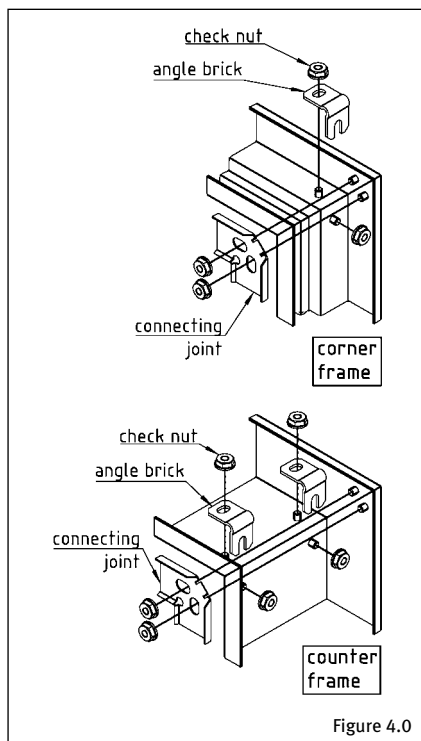

Figure 4.0
- 6.1 Screw frame elements with connecting and angle brackets. Screw the M8 lock nuts by hand (Figure 4.0).